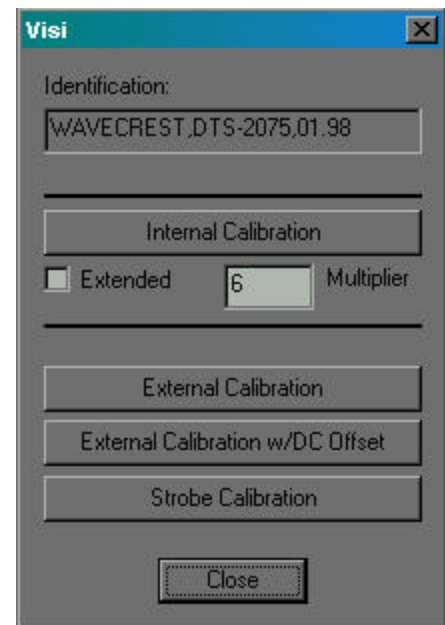

Figure 1. Calibration Menu
In the menus above the top toolbar, select Action followed by Calibration... Press “Internal Calibration” (Figure 1). To run an extended calibration, select Extended and choose a Multiplier from 1 (5.5 minutes) to 24 (2.5 hours). The default of 6 gives a 30 minute calibration for typical results. No front panel connections are necessary for the Internal Calibration. The time until completion is shown on the front panel display.
- Press **External Calibration** (see Figure 1).
- Press **External Calibration w/DC Offset** (see Figure 1).